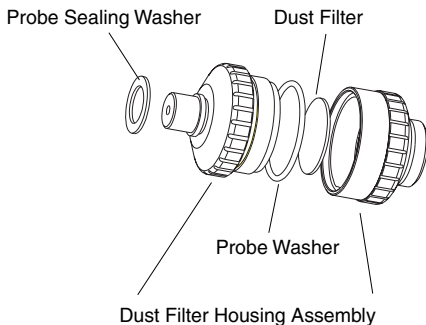

Fig. 5-9 Dust Filter Assembly
- 1) Unscrew the filter housing assembly (Figure 5-9).